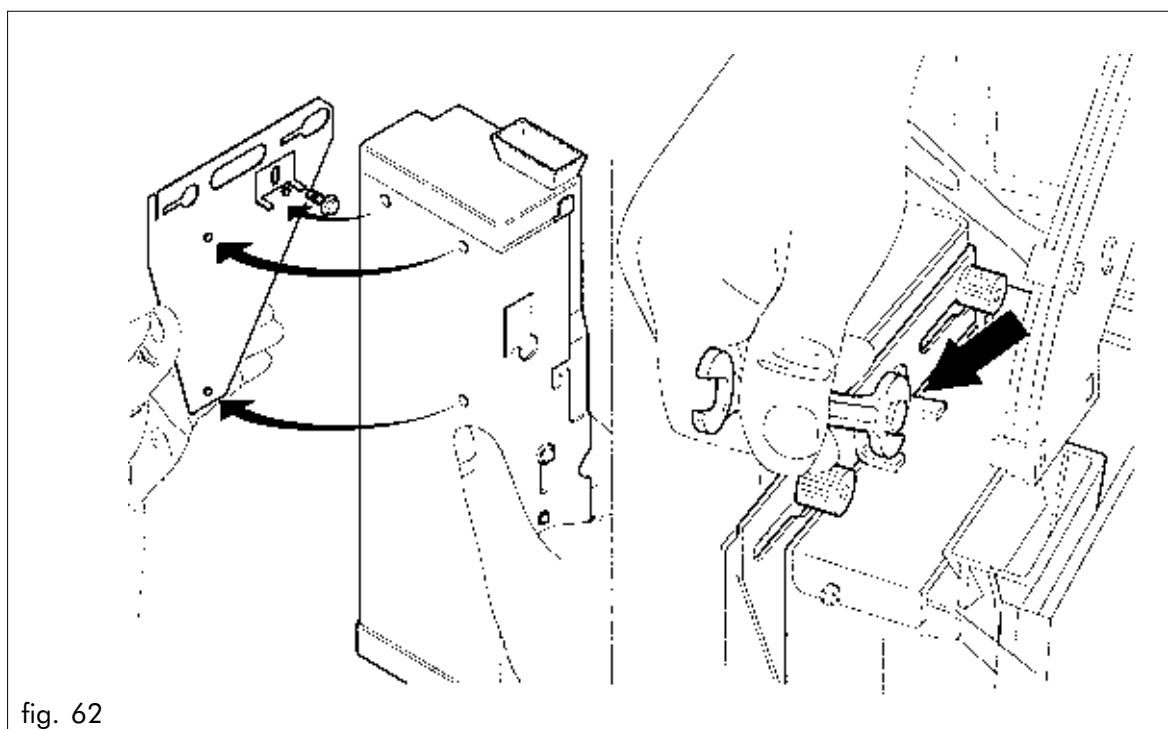

fig. 62
- Clasp the coin mechanism to the support brackets (fig.62).